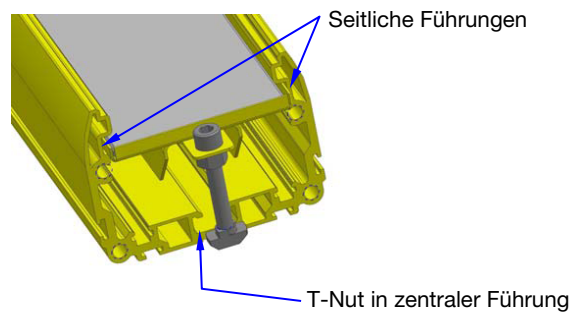

Figure 22: Installing the deflector mirror BAM BD-LG-003-...
1. Use the MC-LG-040-B08-3 kit and install the deflector mirror in the guides provided in the floor stand (Figure 22):